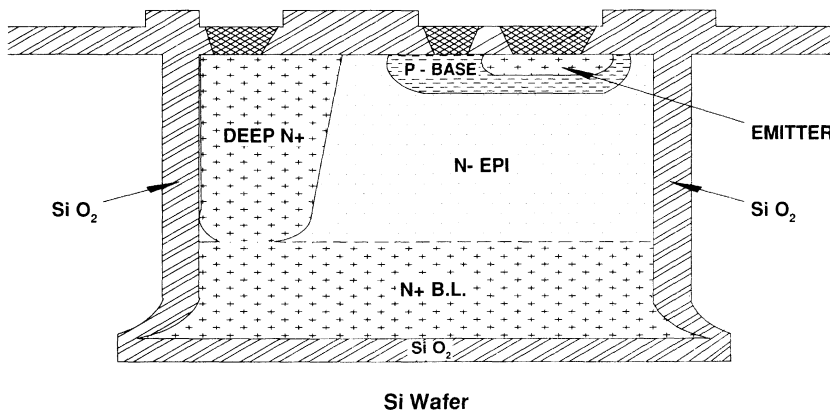

Figure 1. NPN Transistor
- A Silicon General proprietary Silicon-On-Insulator (SOI) process technique called *TISER* (see Figure 1) is used to prevent "latch-up" during single event upset and gamma dot events. This proprietary process has many advantages over older techniques in both electrical and radiation performance.